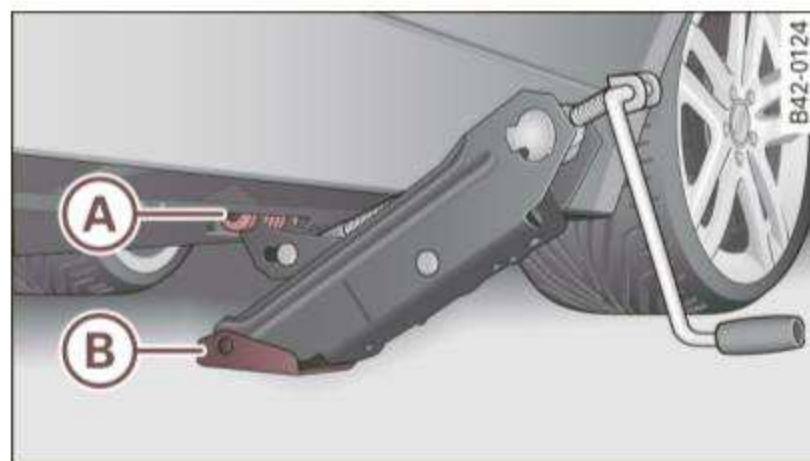

Fig. 134 Close-up:
- Align the jack so the claw ⇒ fig. 134 (A) grips the mounting point on the rocker panel and the flexible base plate (B) is flat on the ground.